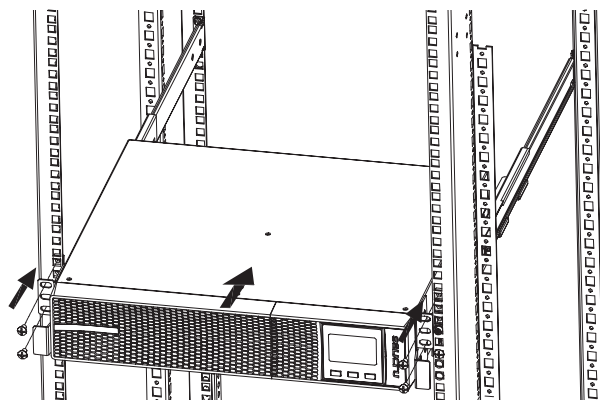

Fig. 8. Rack-type mounting in a 19" cabinet.
- To mount a device in a 19" rack cabinet, proceed as follows (see Fig. 8):